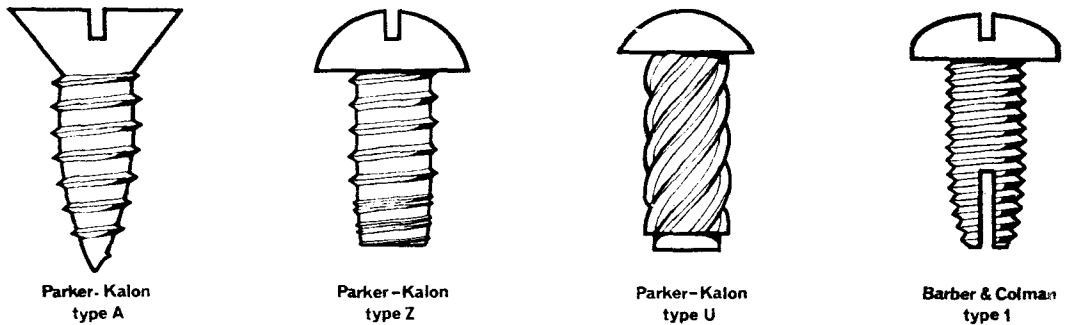

Fig. 11. Self-tapping screws
7. Self-tapping screws are used to secure thin gauge sheet metal where nuts and bolts or rivets are impractical. They are screwed into a hole of the correct diameter and form their own thread. The screw head may be slotted or cruciform; four types in common use are shown in Fig. 11.